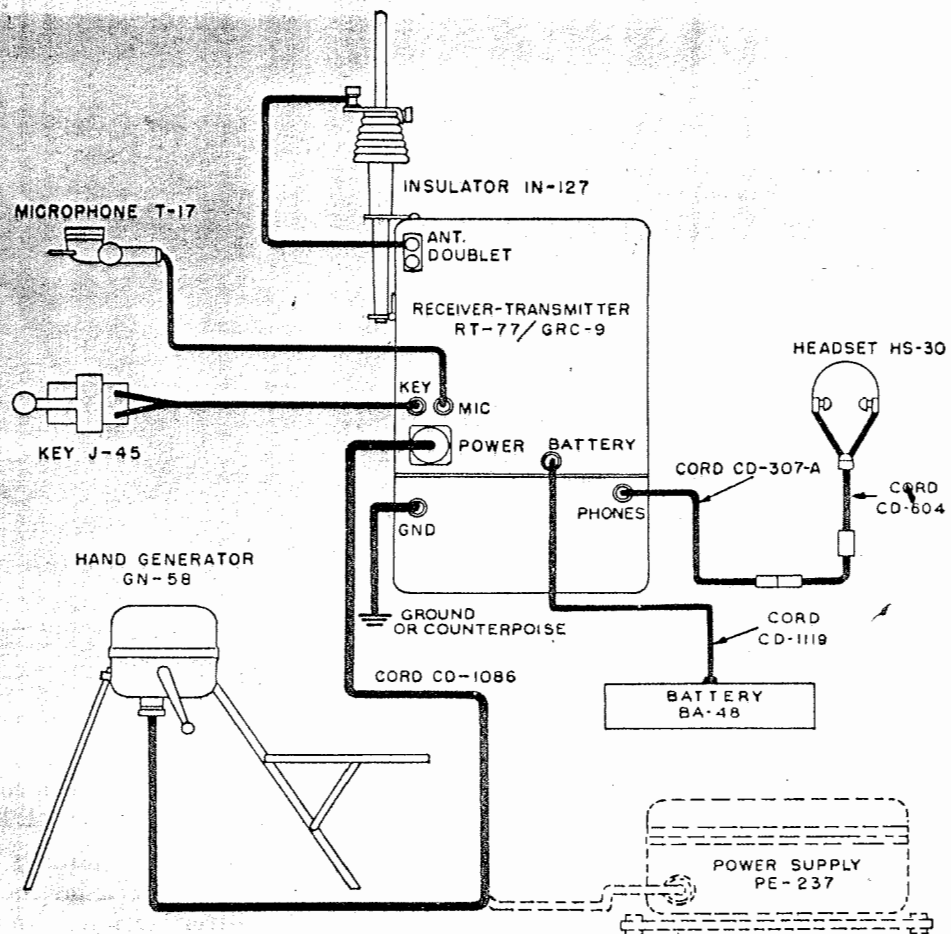

Figure 42. Radio set AN/GRC-9, cording diagram.
- (4) Connect the remaining plug of the cable to the jack on the back of the transmitter chassis and lower the transmitter gently into the case.
- (5) Fasten the clamps on the side of the case to the transmitter panel.
b. EXTERNAL CONNECTIONS. Connect all operating components of Radio Set AN/GRC-9 in accordance with the cording diagram shown in figure 42 and the illustration in figure 43. Use the cords supplied with the radio set as follows:
- (1) Install Cord CD-1086, connecting one end to the POWER receptacle on the radio set and the other end to Generator GN-58-(*) or Vibrator Power Unit PE-237. When using Generator GN-58-(*), use Cord CD-1086 (7 feet long). For Vibrator Power Unit PE-237, install Cord CD-1086 (3 $\frac{2}{3}$ feet long). These two cords are both marked Cord CD-1086 and are identical except for length.